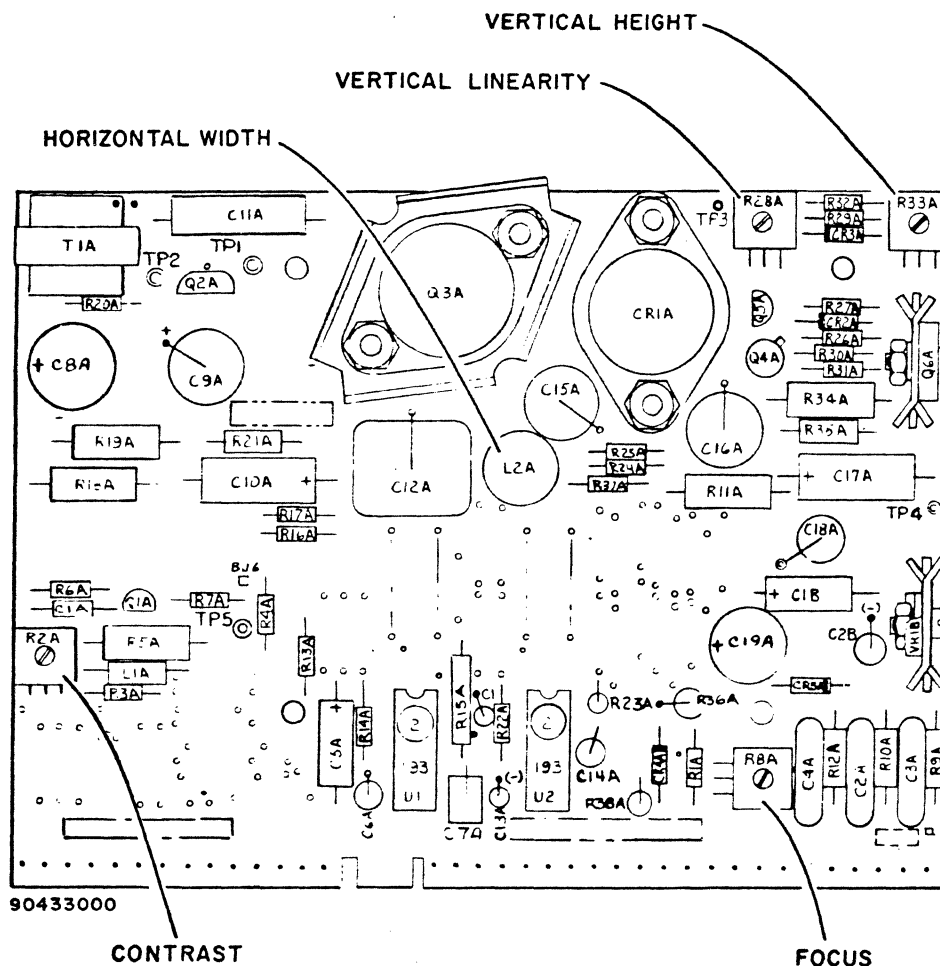

Figure CRT42. Monitor Printed-Circuit Board Adjustments
- c) Increase video gain by turning Contrast control (figure CRT42) clockwise until checksum characters appear on display.
- 8) Adjust vertical height by turning adjustment screw (figure CRT42) clockwise/counterclockwise until rectangle of displayed characters is 13 cm (5.24 inches) in height.
- 9) Adjust horizontal width to 20 cm (8.0 inches) by turning adjustment screw clockwise/counterclockwise in coil (figure CRT42) using a 3/32-inch nonmetallic hex driver.
- 10) Reduce video gain to zero by turning contrast adjustment screw (figure CRT42) fully counterclockwise.
- 14) Check top line, center line, and bottom line of displayed characters for uniformity. If characters are compressed anywhere on screen, turn vertical linearity adjustment screw (figure CRT42) clockwise or counter-clockwise until character distortion disappears and all lines are equal in vertical size.
- 15) Insert screwdriver in focus adjustment screw slot (figure CRT42) and adjust while observing characters on screen. Turn focus adjustment screw clockwise until dots (each character dot matrix) elongate toward upper-right corner of display screen. Then turn focus control slowly counter-clockwise until elongated dots pull back to form round dots and entire screen is without fuzziness.